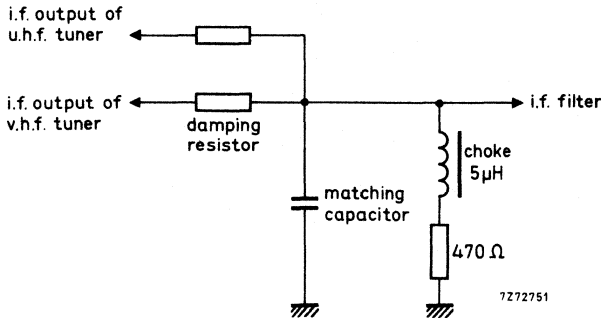

Fig. 12.
The tuner needs a d.c. path from the i.f. output terminal (T) to earth, preferably via a choke of approx. $5 \mu\text{H}$ outside the tuner (Fig. 12). Where the tuner is used in combination with a u.h.f. tuner, this choke can be common for both tuners; a resistor in series with the choke can make ineffective the i.f. output circuit of the switched-off tuner. For damping the i.f. output circuit and matching the i.f. output impedance of the tuner to the i.f. amplifier, a series resistor and a parallel capacitor as shown in Fig. 12 should be used (During v.h.f. operation the voltage across the 470Ω resistor is 1 to 1,2 V.)